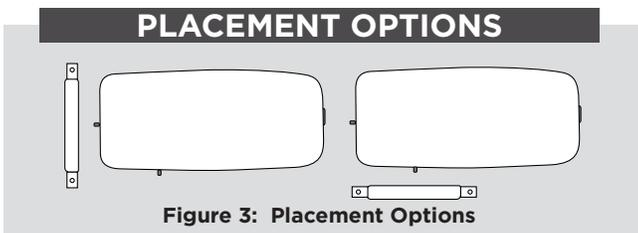

Figure 3: Placement Options
1. Place and hold the magnet directly on the door closest to the magnetic reed switch, no more than 2.54 centimeters apart from the transmitter. See Figure 3.